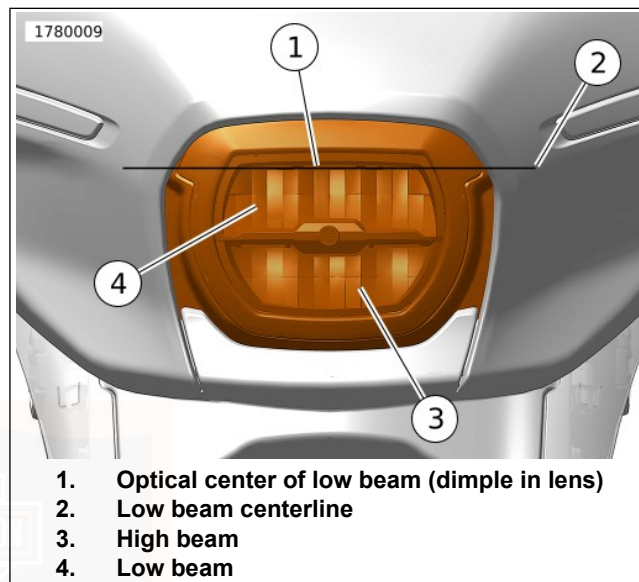

Figure 112. Headlamp Components
See Figure 112. The upper lens (4) is low beam on LED headlamps.